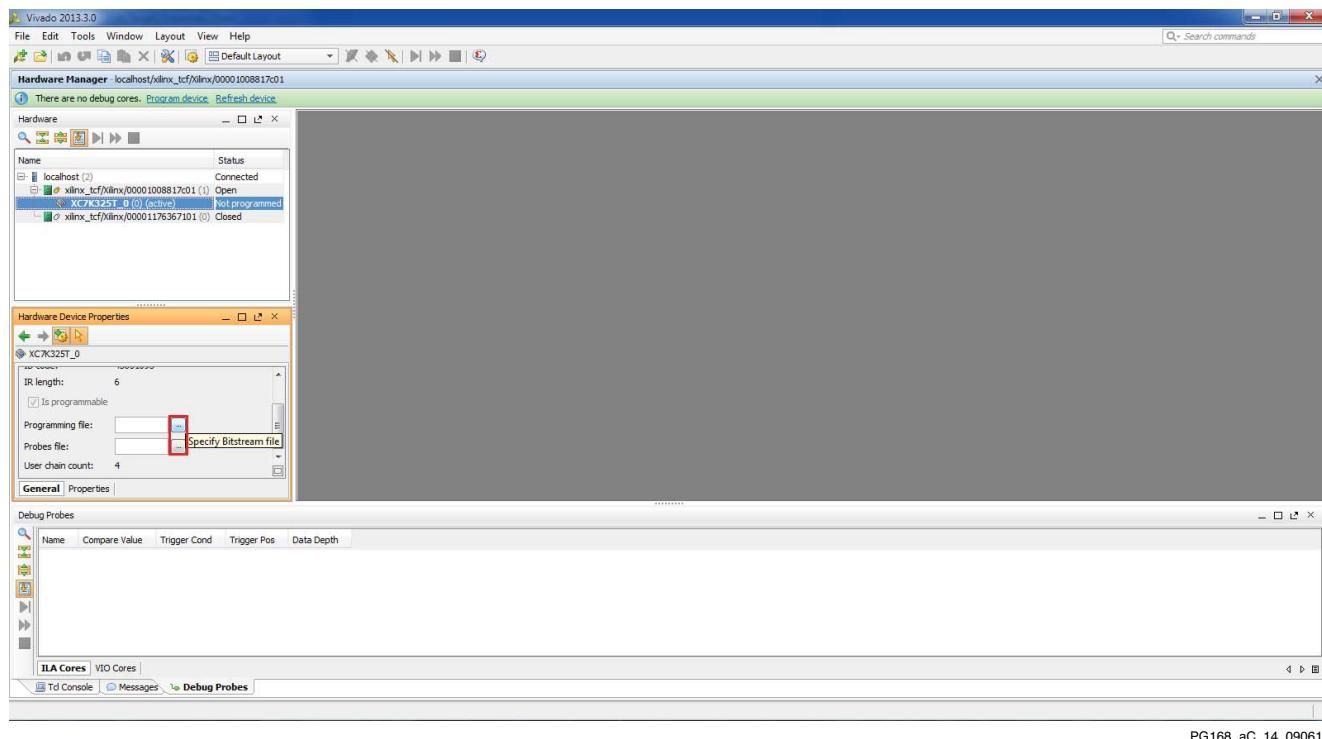

Figure C-14: Hardware Device Properties
18. Browse to and specify the bitstream file (<routed>.bit) location in the programming file, and probe file (<probfile.ltx>) location in the Probes file as shown in Figure C-14.